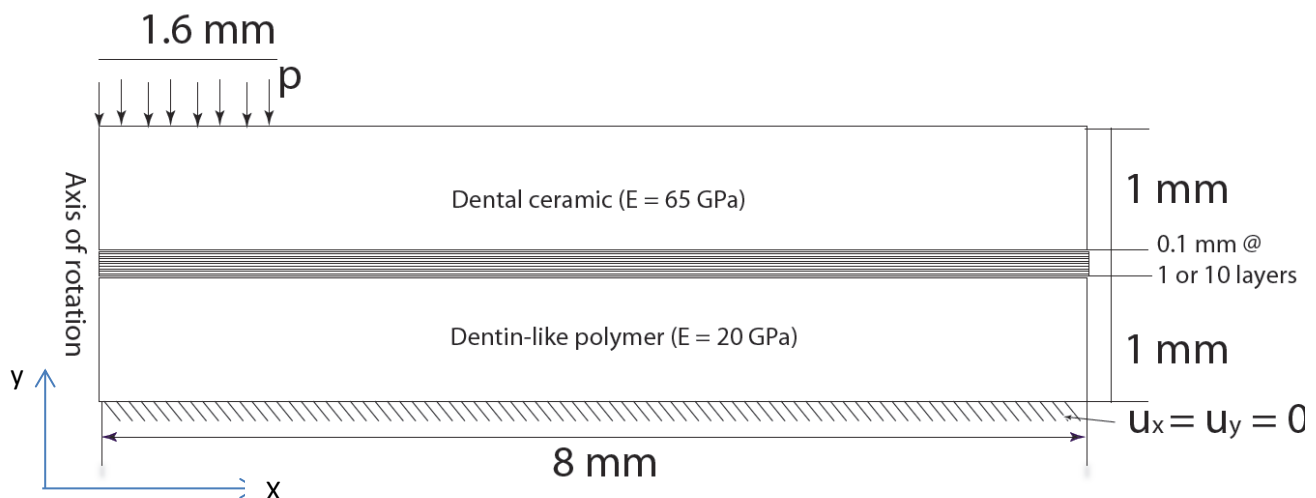

Figure 1. Schematic of dental restoration.
In this project we compare three different configurations for dental crown restoration. Figure 1 shows the schematic of a dental restoration. The top and bottom layers resemble the properties of enamel and dentin, respectively. We investigate the effect of the connective layer that substitutes the dentin–enamel junction (DEJ) in real teeth. This layer transmits loads from enamel to dentin and the gradual change of material properties reduces stress concentrations.
We analyze a cylinder with the axis of rotation (cylindrical symmetry) at $x = 0$. The dimensions, material properties, and boundary conditions are shown in figure 1. For simplicity we use Poisson ratio, $\nu = 0.3$ for all materials in our simulations. The boundary conditions are:
2. Material: We define 12 materials (for cases I, III, and IV) and 3 materials for case II based on the values given in figure 1 and Table 1.
3. Element type: We use the element type "Solid 8 node (183)" for all simulations. Make sure axisymmetric is chosen through the options provided for this element.
5. Boundary conditions: Boundary conditions are shown in figure 1.